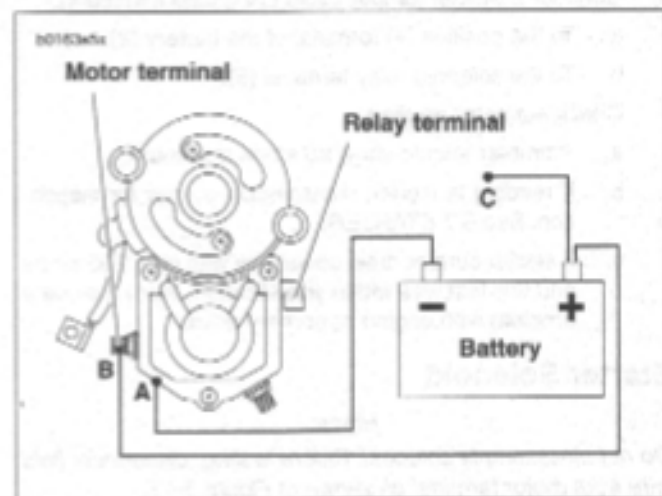

Figure 5-13. Return Test
1. See Figure 5-13. With test leads still connected in the manner specified at the end of the previous **SOLENOID HOLD-IN TEST**, **disconnect solenoid relay terminal/positive battery post test lead (C) at either end.**